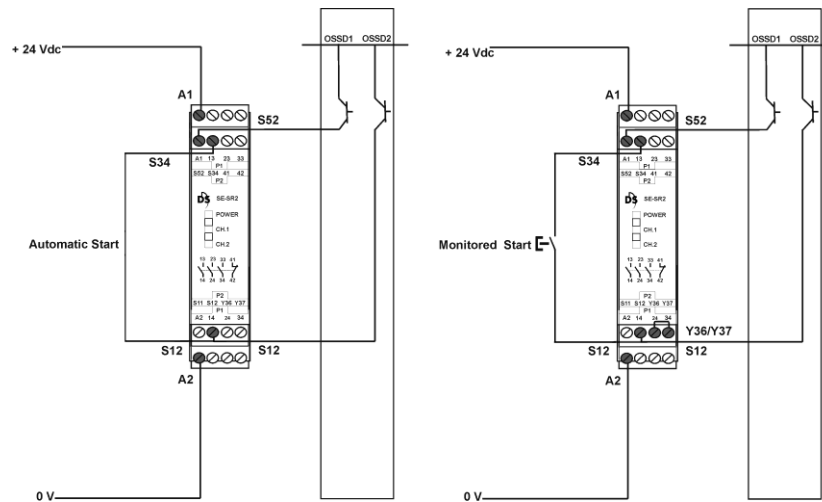

Figure 30
- The OSSD1 and OSSD2 safety contacts cannot be connected in series or in parallel, but must be used separately (Figure 30), conforming to the plant's safety requirements.